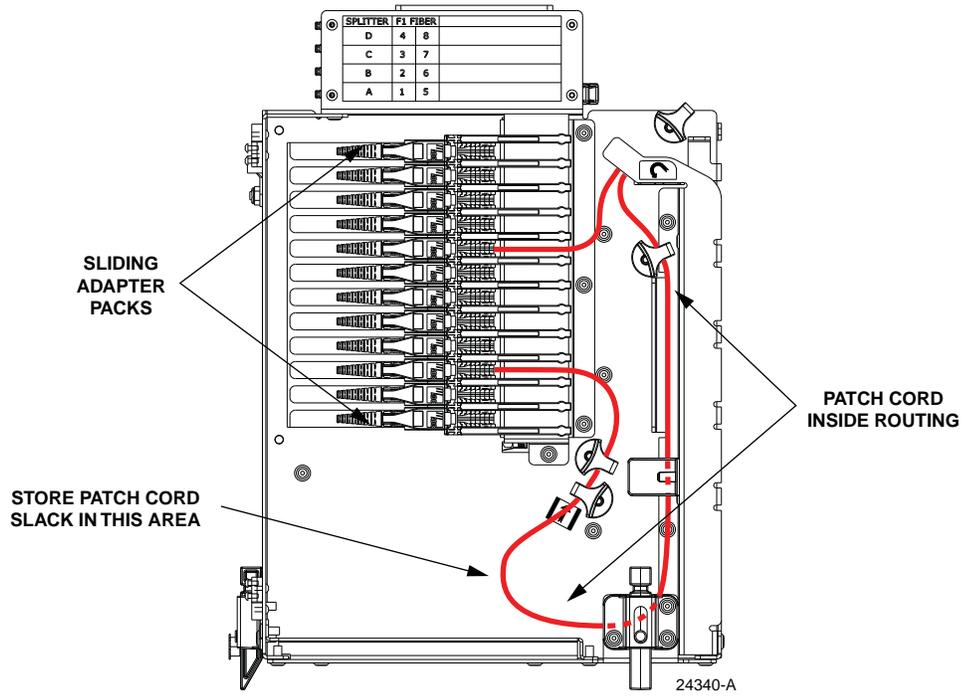

Figure 64. Patch Cord Slack Storage
14. Store the patch cord fiber slack as shown in Figure 64.